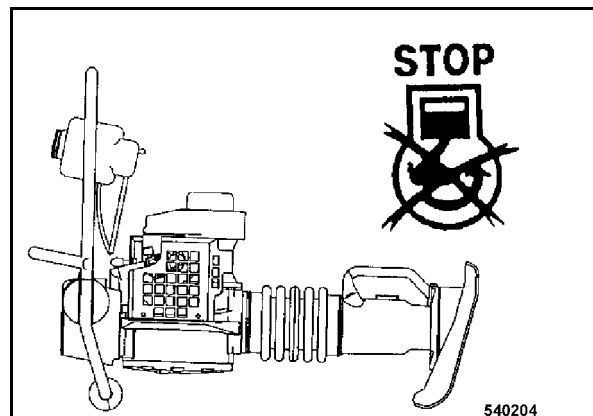

Fig. 28
- Lay down the tamper (Fig. 28) to transport it on the rollers.